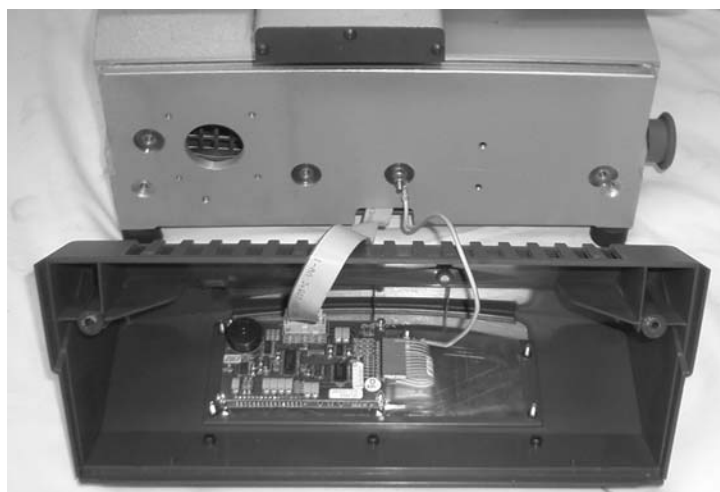

Fig. 35
- 2) remove the display stand by unscrewing the 2 fixing screws (B1) (fig. 35).
- 2) remove the display stand by unscrewing the 3 fixing screws (B1) (fig. 35, page 73).